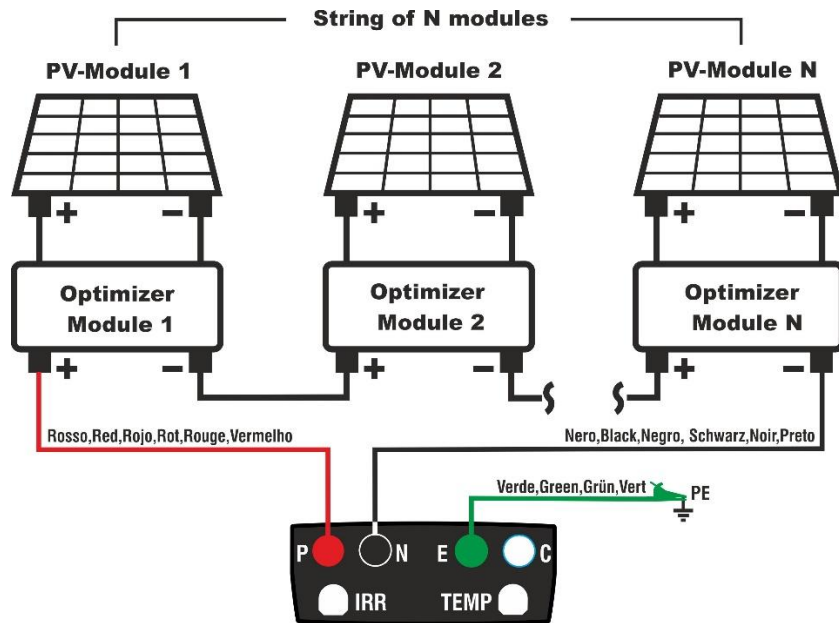

Fig. 10: Connection instrument for insulation measurement with optimizers
5. Connect the instrument to the output of the series of optimizers associated with the string under test as shown in Fig. 10. Specifically, connect the positive pole output from the **first optimizer** to terminal **P**, the negative pole output from **the last optimizer** to terminal **N**, and terminal **E** to the system's main ground reference
4. Connect the instrument to the output of the series of optimizers associated with the string under test as shown in Fig. 10. Specifically, connect the positive pole output from the **first optimizer** to terminal P, the negative pole output from **the last optimizer** to terminal N, and terminal E to the system's main ground reference